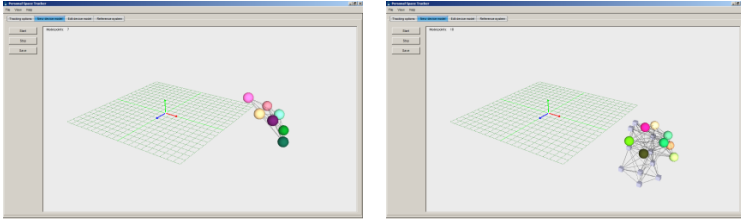

Figure 7.11: Training in progress
2. Select the PST unit to use for training and press the “Start” button in the training window. The training live view is updated and displays the 3D points corresponding to the visible markers. An example training session is shown in Figure 7.11. The colors encode the different markers in the target model. Grey cubes indicate that a previously visible marker is occluded and its position is being predicted by the PST. The training live view can be manipulated in the same way as the tracking live view (see Section 7.4.4).